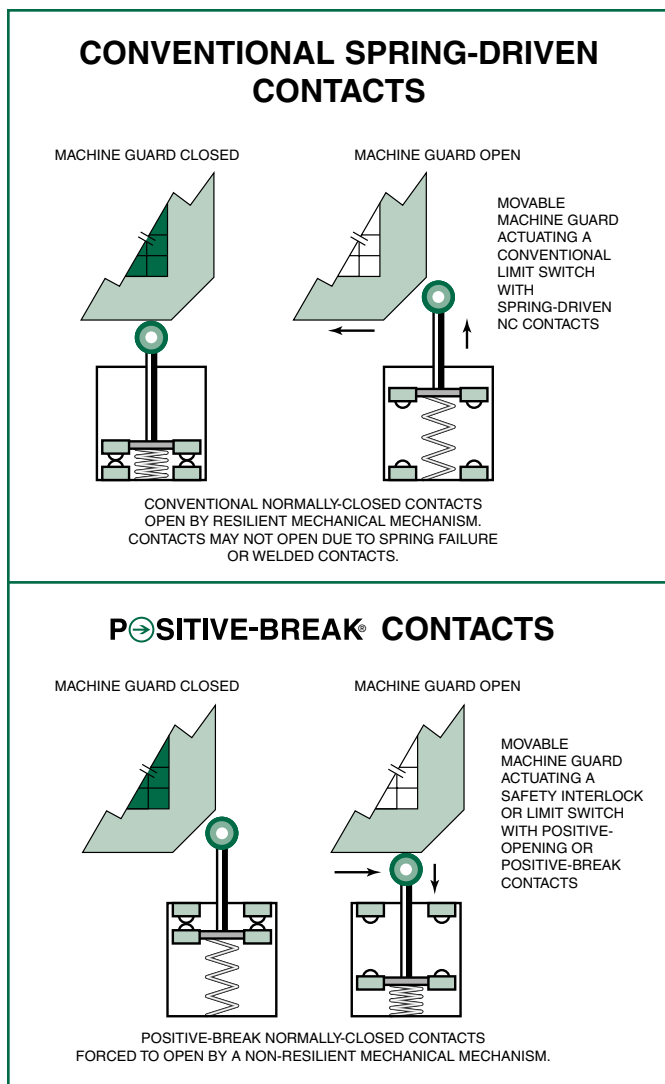

Figure 2
Positive-Break Contacts: normally-closed (NC) contacts which, upon actuation, are forced to open by a non-resilient mechanical drive mechanism. Also called “positive-opening” or “direct-action” contacts. (See Figure 2.)